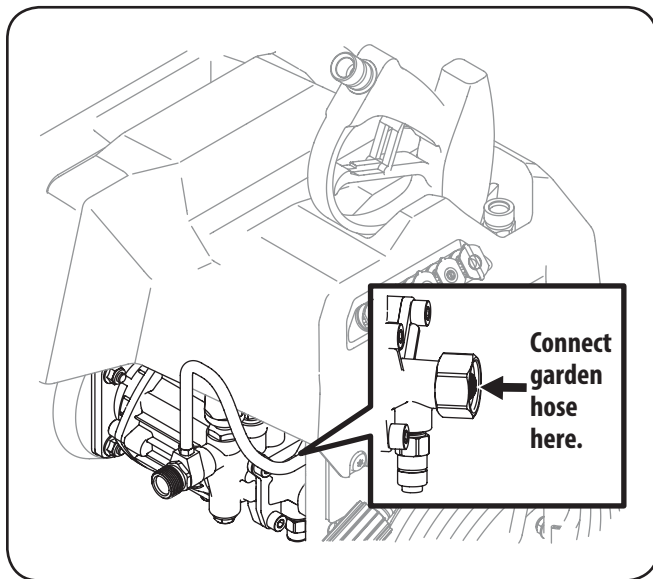

Figure 5-3
6. Connect a garden hose to the water inlet on the pressure washer pump. See Figure 5-3.